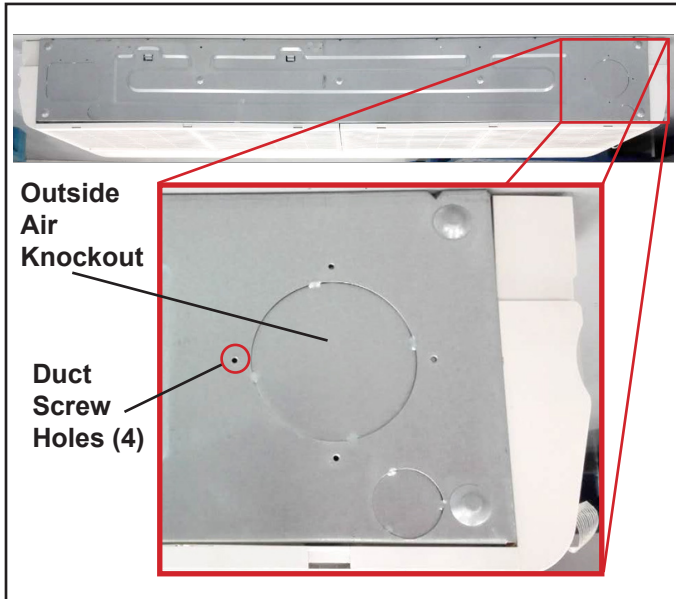

Figure 16. Typical Outside Air Knockout
1. Knock out the outside air supply opening. See Figure 16.
3. Connect the outside air duct to cassette body using the four screw holes shown in Figure 16.